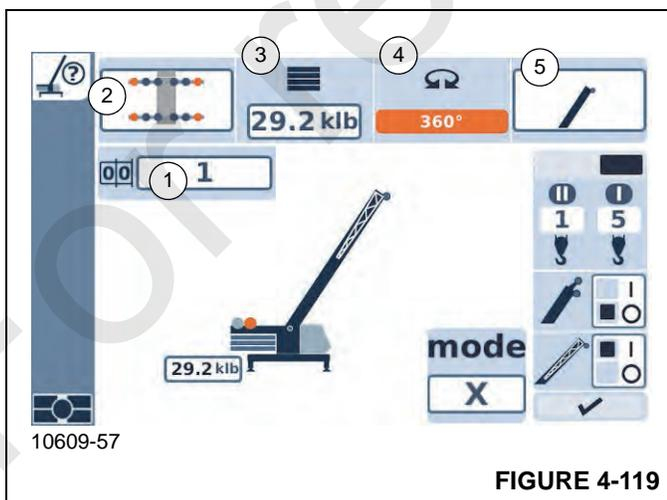
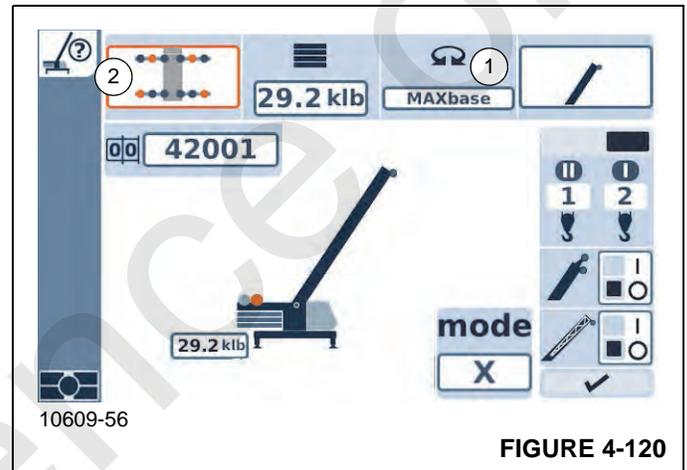

FIGURE 4-119
FIGURE 4-120
1. **Direct Rigging Code Entry** – operator enters the Rigging Code from the *Load Chart Manual* directly into the rigging code selection field (1, Figure 4-119)
2. **Setup Wizard** – operator selects each individual component configuration (2 through 5, Figure 4-119)
- MAXbase is a menu choice when programming the Swing Range selection field (1, Figure 4-120)
- Unequal Outrigger Configurations are menu choices when programming the Outrigger Configuration selection field (2, Figure 4-120)
For MAXbase operations the operator can either use the Direct Rigging Code Entry method and enter a MAXbase Load Chart Rigging Code into the Rigging Code selection field (1, Figure 4-119) or use the Setup Wizard and select MAXbase in the Swing Range selection field (1, Figure 4-120).
When entering a MAXbase Load Chart Rigging Code directly, all of the component configurations (2 through 5, Figure 4-119) are automatically selected. When using the Setup Wizard and MAXbase is first selected in the Swing Range selection field (1, Figure 4-120), the RCL system will then limit the Outrigger Configuration selection field (2, Figure 4-120) to only MAXbase outrigger configurations. This limiting feature makes programming the RCL more efficient.